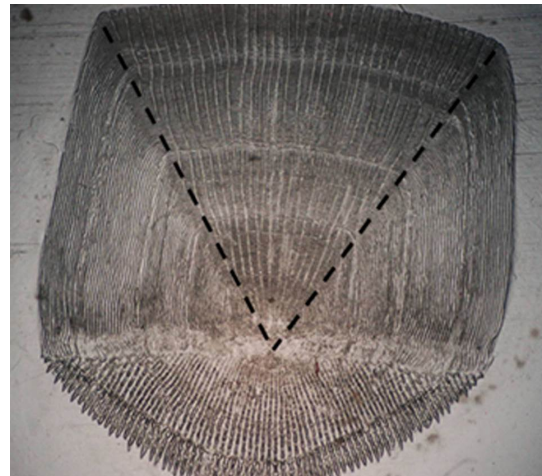

Figure 4: Striped Bass scale with a clear focus and V-shaped radii marked with black Sharpie.
2. The focus is a clear point, the radii form a true V-shape (Figure 4);